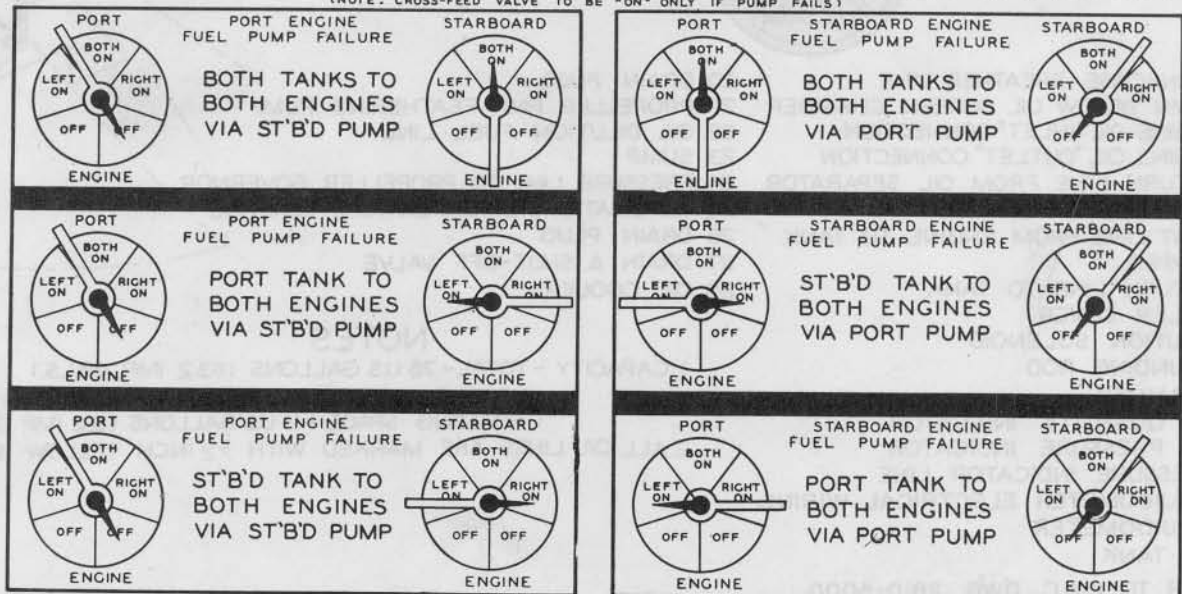

Figure 24—Fuel Selector Valve Position Chart
(2) SELECTOR VALVES. (See figure 24.)—The fuel flow from the tanks to the engines is controlled by the selector valves on the engineer's panel. The port valve can be set to feed fuel from either or both tanks to the port engine. The starboard valve can be set to feed fuel from either or both tanks to the starboard engine.
(3) HAND WOBBLE PUMPS.—Connected to the selector valves, and also mounted on the engineer's panel, are the A.E.L. units, incorporating strainers and the two hand wobble pumps. The wobble pump handles are so designed that both pumps can be operated simultaneously with one hand, or separately, as desired.
(4) STRAINERS AND DRAINS.—The strainers are incorporated in the A.E.L. units and are provided with drain cocks, with controls on the engineer's panel, so that they may be drained during flight.
(5) AUXILIARY POWER UNIT, CENTRAL HEATER, and TAIL ANTI-ICER FUEL SUPPLY.—A separate selector valve for the auxiliary power unit fuel supply is located just below the starboard fuel selector valve on the engineer's panel.
(3) OPERATION OF FUEL SELECTOR VALVES.—The various combinations of tank-to-engine fuel flow are shown in figure 24.
(4) OPERATION OF CROSS-FEED SYSTEM.—The various combinations of fuel selector valve settings with only one fuel pump operating, and the cross-feed valve "ON" are shown in figure 24. The cross-feed valve should always be "OFF" except in case of pump failure.
(5) OPERATION OF HAND WOBBLE PUMPS.—The hand wobble pumps are used to furnish fuel pressure to start the engines and to furnish emergency pressure in case one of the engine-driven fuel pumps is disabled. Pump capacity is 135 U. S. (112.5 Imperial) gallons per hour at 120 single strokes per minute.
(6) OPERATION OF PRIMING PUMPS.—The hand priming pump is on the port side of the engineer's compartment. The pump handle can be turned to select the engine to be primed. To unlock the plunger, push the handle all the way down; turn to right or left "ON," as desired. Plunger may then be pulled back for the stroke.